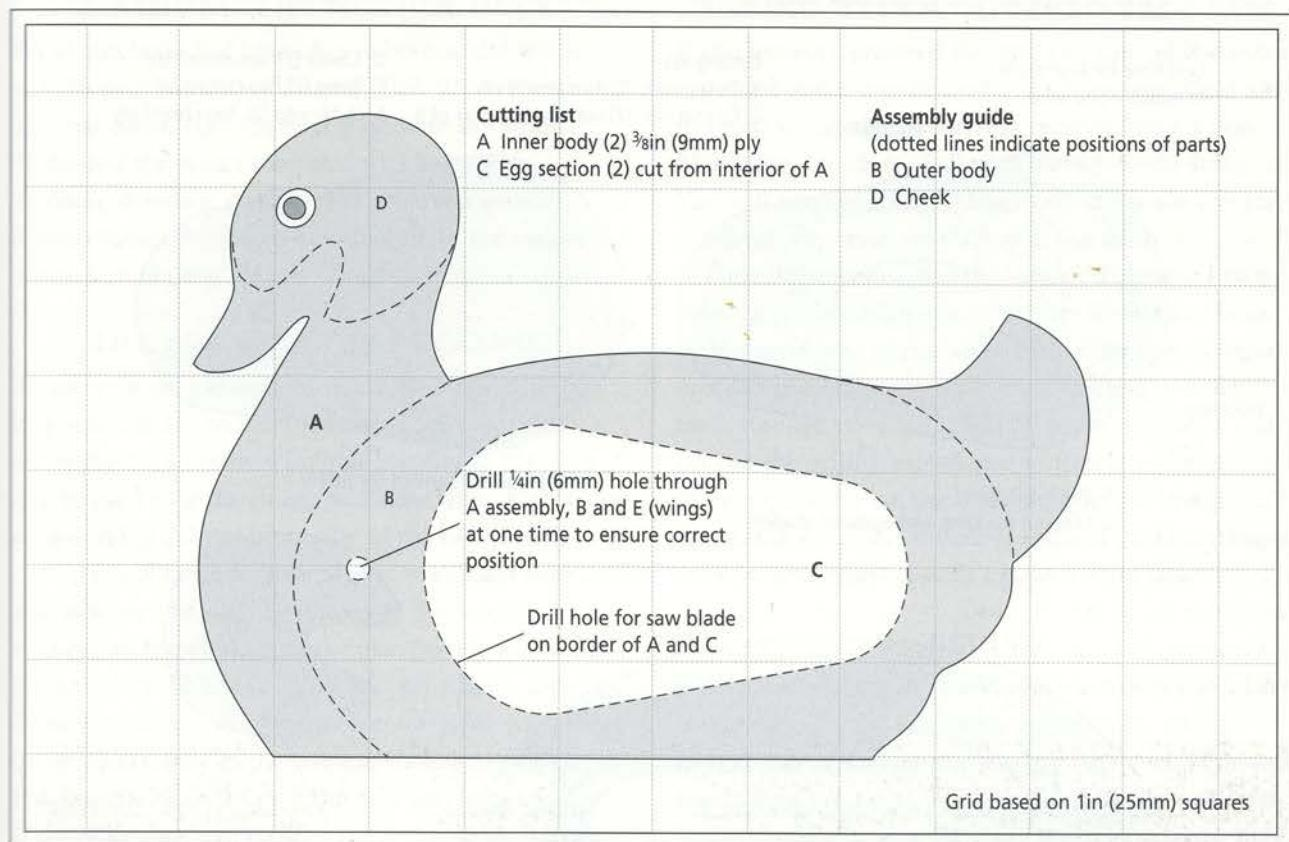
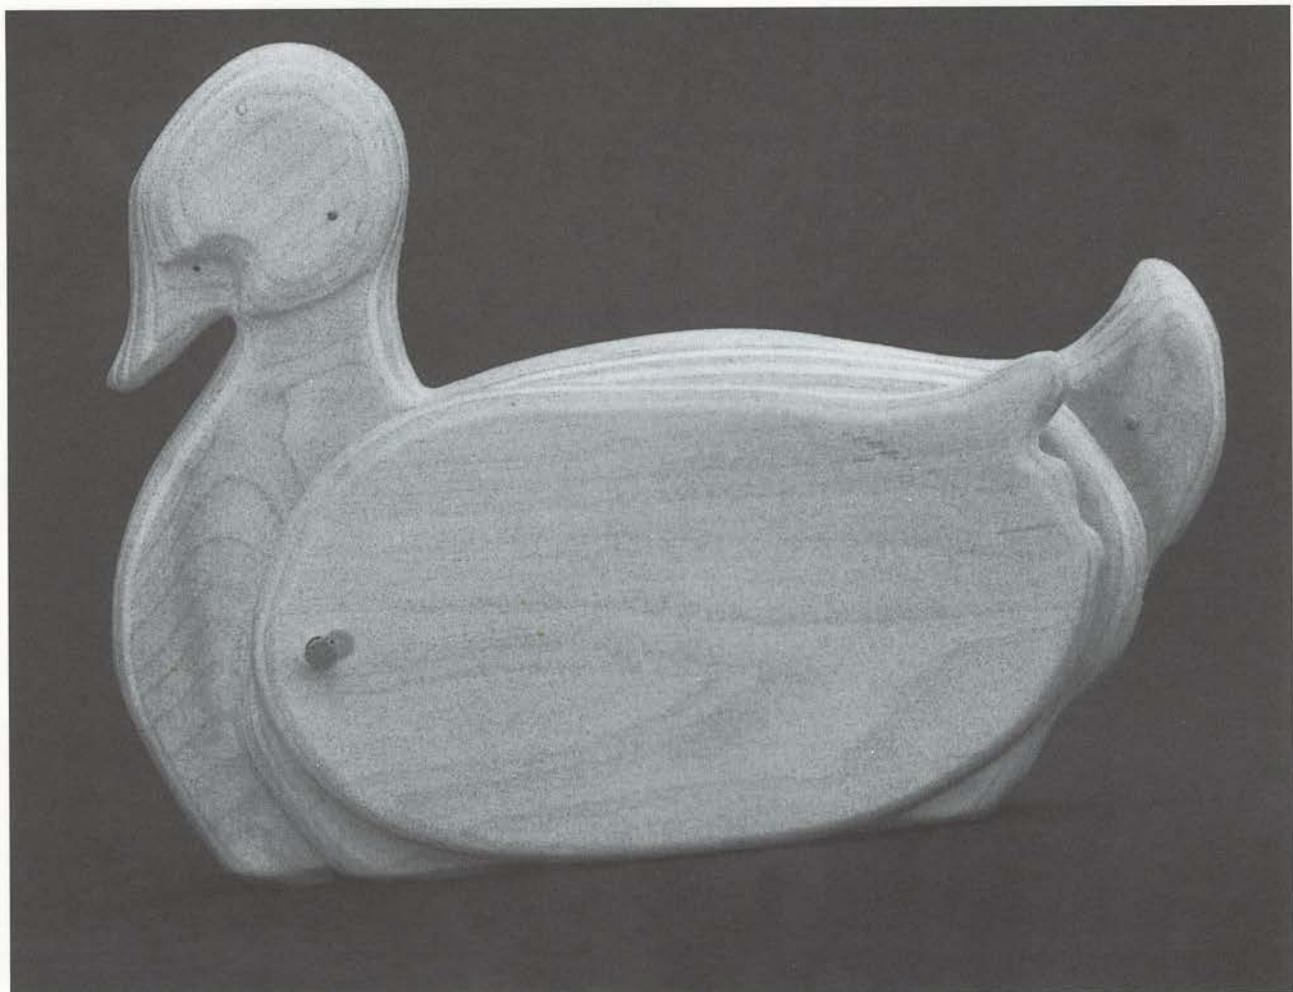

Fig 2.2 Cutting list for parts A and C. Assembly guide.
Fig 2.6 The contours of the wing (E) and the duck's body are rounded and smoothed with a rasp and sandpaper.
re-attach the blade to the saw frame (see pages 8 and 9 in the Toy Making Methods). Fig 2.2 shows where to drill the saw hole. Then proceed to cut out parts C.
Glue and pin together the two inner body parts (A). Make sure the bases are level and the outlines line up as evenly as possible. Keep the pins clear of the area where the hole will be drilled. See Fig 2.2 for the hole position. Set aside the parts A assembly until the glue has dried.
Glue and pin one part B and one cheek piece (D) to each side of part A in the positions shown in Fig 2.2. Again, refer to Figs 2.4 and 2.5 for examples of the correct placement of parts before gluing. Make sure that the egg-shaped cut-outs on parts A and B are lined up and that their bases are level.
Don't forget the interior egg shape. Use the rasp to smooth any edges that may be uneven. With rasp in hand, it is a good time to take up parts E, the wings. Round and smooth the contours of the wings. Fig 2.6 shows a shaped wing. After rasping, remove all rasp marks by sanding, first with coarse sandpaper, then with medium, and then fine sandpaper.
Drill the $\frac{1}{4}$ in (6mm) holes in the body and wings in the positions shown in Figs 2.2 and 2.6. Insert a metal dowel through the hole in the body and place a wing on each end of the dowel as shown in Fig 2.6. Check that the wings raise clear of the hole into which the egg fits. Remove the wings from the metal dowel and then the dowel from the hole. Set the dowel aside for the time being.